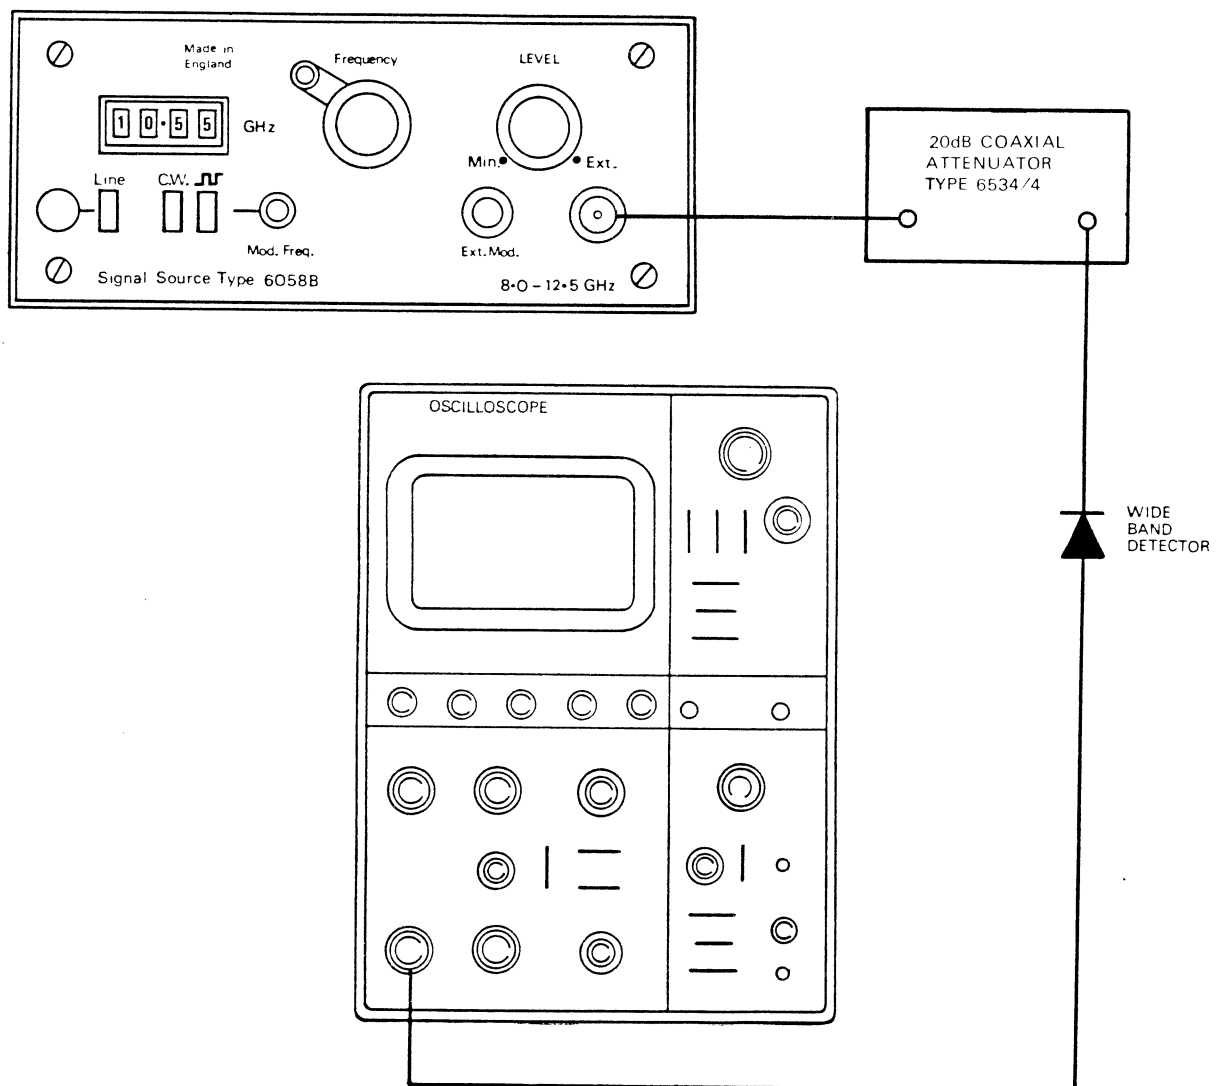

Fig. 12 Modulation Circuit
- 1) Set up the system shown in Fig.12.